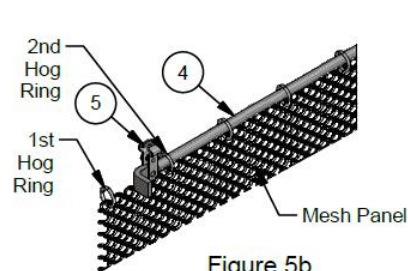

Figure 5b
2. Starting with the 2nd Mesh Hog Ring, slide the Mesh Panel onto the straight end of the Rod ④. (Figure 5b)